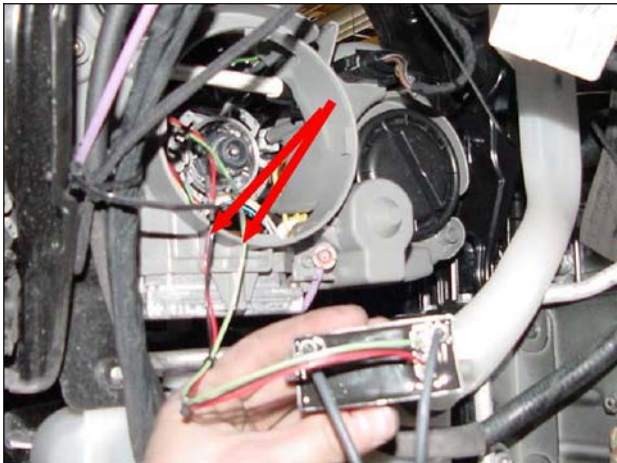

Figure 11
- 8.8 Solder the 3 wires from the new ignition module onto the supply lines (Figure 11) using solder connectors A002 546 13 41.